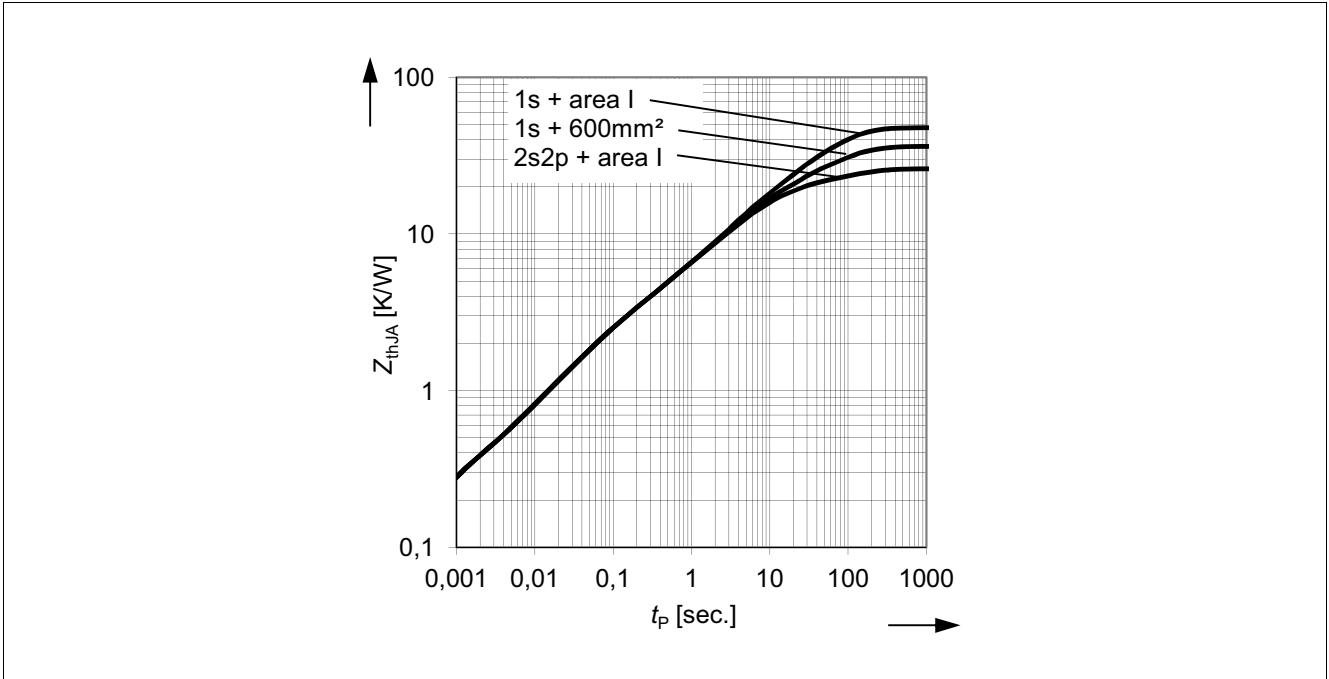

Figure 5 Typical transient thermal impedance  $Z_{th}(JA) = f(t_P)$  for different cooling areas
**Figure 5** is showing the typical thermal impedance of BTS50040-2SFA mounted according to Jeduc JESD51-2,-5,-7 at natural convection on FR4 1s and 2s2p board. The product (chip + package) was simulated on a 76,4 x 114,3 x 1,5 mm board with 2 inner copper layers (2x 70 $\mu m$  Cu, 2 x 35 $\mu m$  Cu). Where applicable, a thermal via